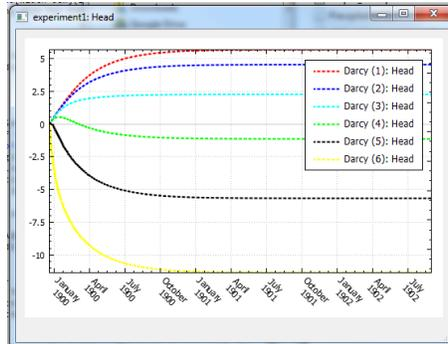

Figure 1.5: Temporal variation of hydraulic head in blocks Darcy (1)-(6) in the 1-D unconfined aquifer example
- Right-click on blocks Darcy(1) to Darcy(6) and choose **Plot Hydraulic results**→**Plot head** from the drop-down menu. You can copy and paste all the graphs onto a single one and color each differently. The final results should look like figure 1.5.
- Right-click on each of the connectors connecting blocks Darcy (1)-(6) and choose **Plot flow**. Copy all the curves into the same